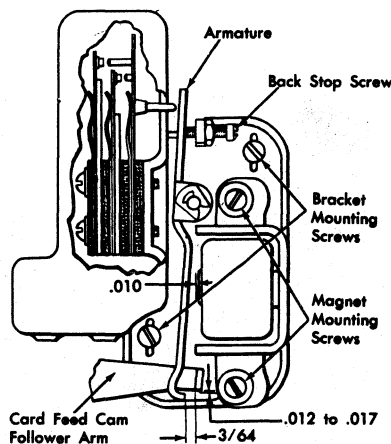

Figure 20. CF Latch Magnet Adjustment
ADJUSTMENT (Figure 20)
1. Provide $\frac{3}{4}$ -inch (.047-inch) clearance from latch magnet armature to ear on CF cam follower arm (Figure 20).